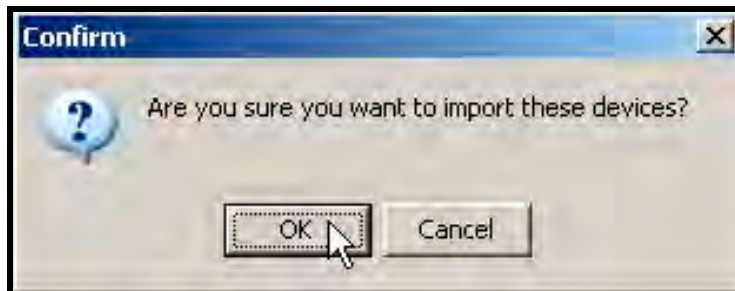

Figure 6-6: Confirm Import Dialog
Step 6. Select the desired TS-3000i clock(s), and click on the  button to import into the ATVS software. The dialog “Are you sure” will appear (see Figure 6-6). Click the **OK** button to perform the operation. The operational status will appear in the display window to show that the selected clock(s) have been imported.